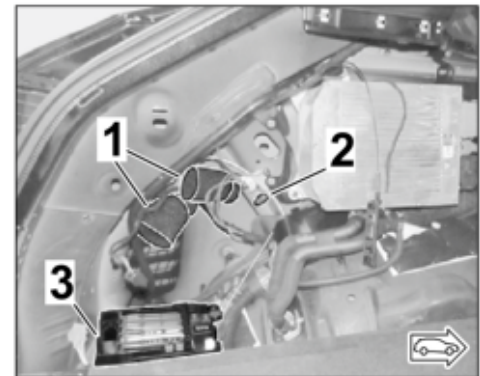

Figure 4
1.4 Expose connector B (6-pin)/connector C (10-pin) on trailer hitch preparation near the fuse box in the luggage compartment (⇒ *Figure 4*).